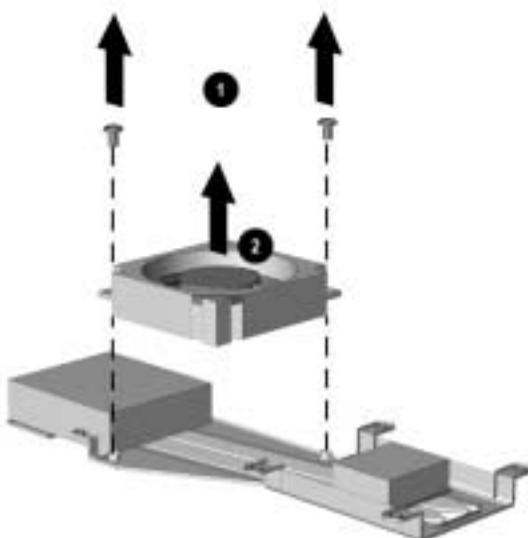

Figure 5-28. Removing the Fan
6. Remove the two screws that secure the fan to the heat sink ① (Figure 5-28).
7. Remove the fan from the heat sink ②.